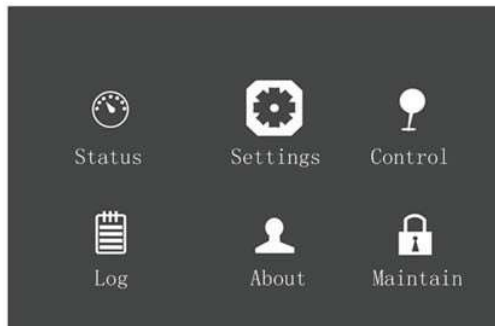

Figure 5-14 Main menu
1. Access the main menu screen and press the  or  key to switch the cursor to select 'Settings', then press the  key to confirm. See Figure 5-14.